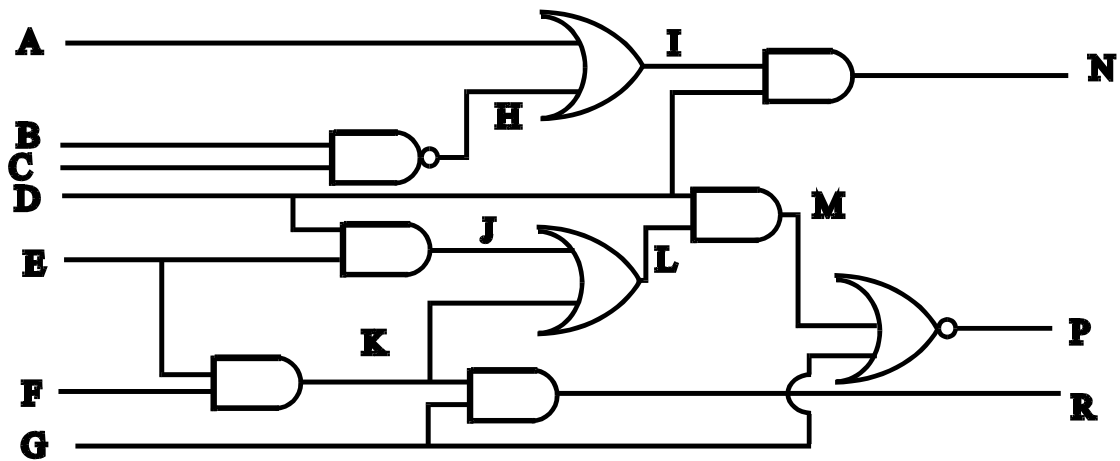

Figure 3
- (c) Making the usual assumptions about faults (not those in part (b)), identify a test vector that will test for a stuck-at-0 fault at J in the circuit shown in figure 3. What should we observe at which output under this test if the circuit is fault-free?